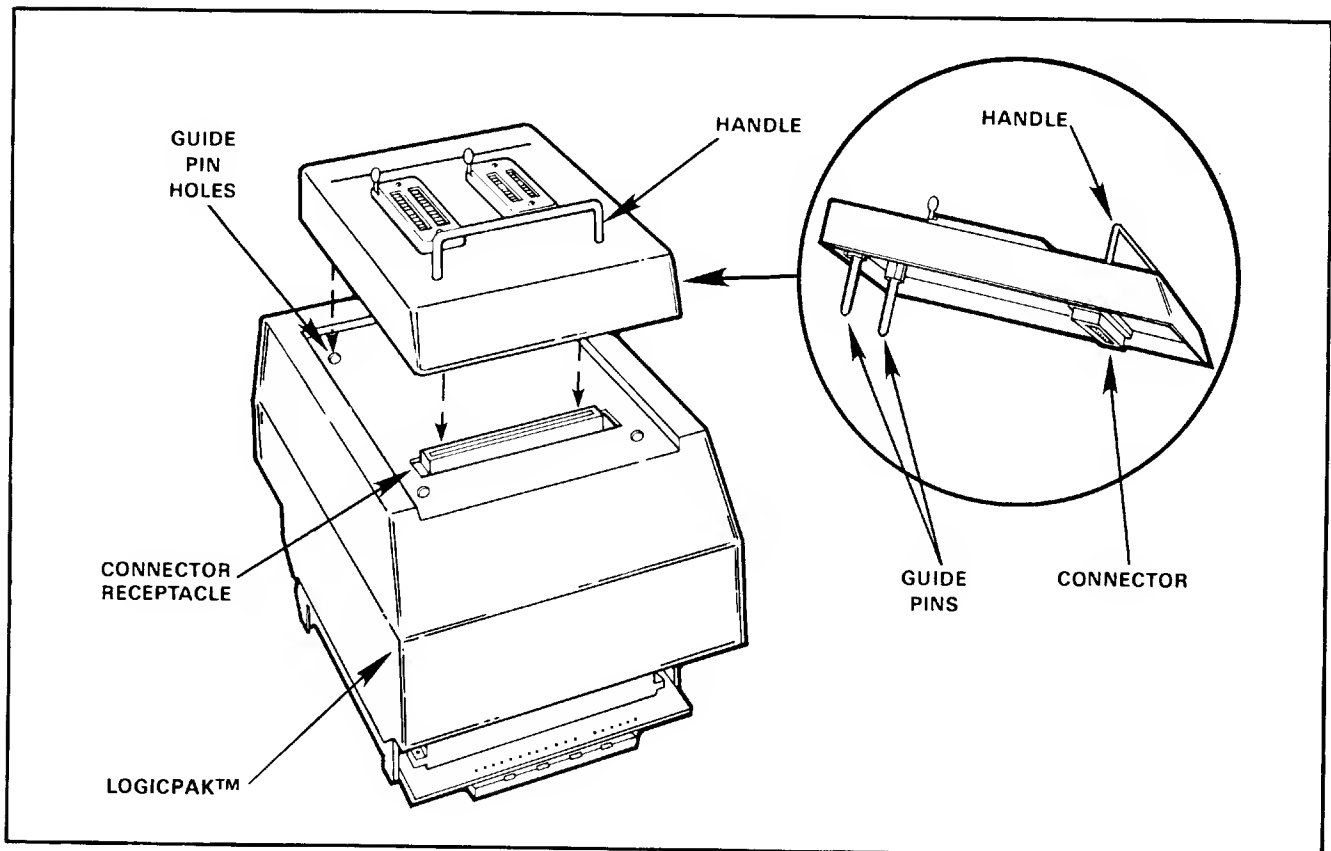

Figure 2-1. Adapter Installation
2. Align the guide pins on the underside of the adapter with the guide pin holes on the LogicPak™ (see figure 2-1).
4. Firmly press down on the front edge of the adapter to lock the connector pins into the connector receptacle (see figure 2-1).